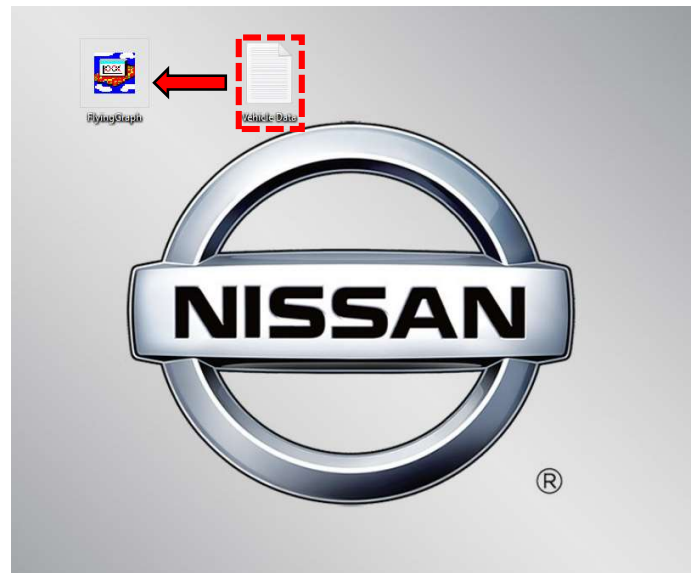

Figure 13
15. Drag and drop the data file into the "FlyingGraph" program. (Figure 13)